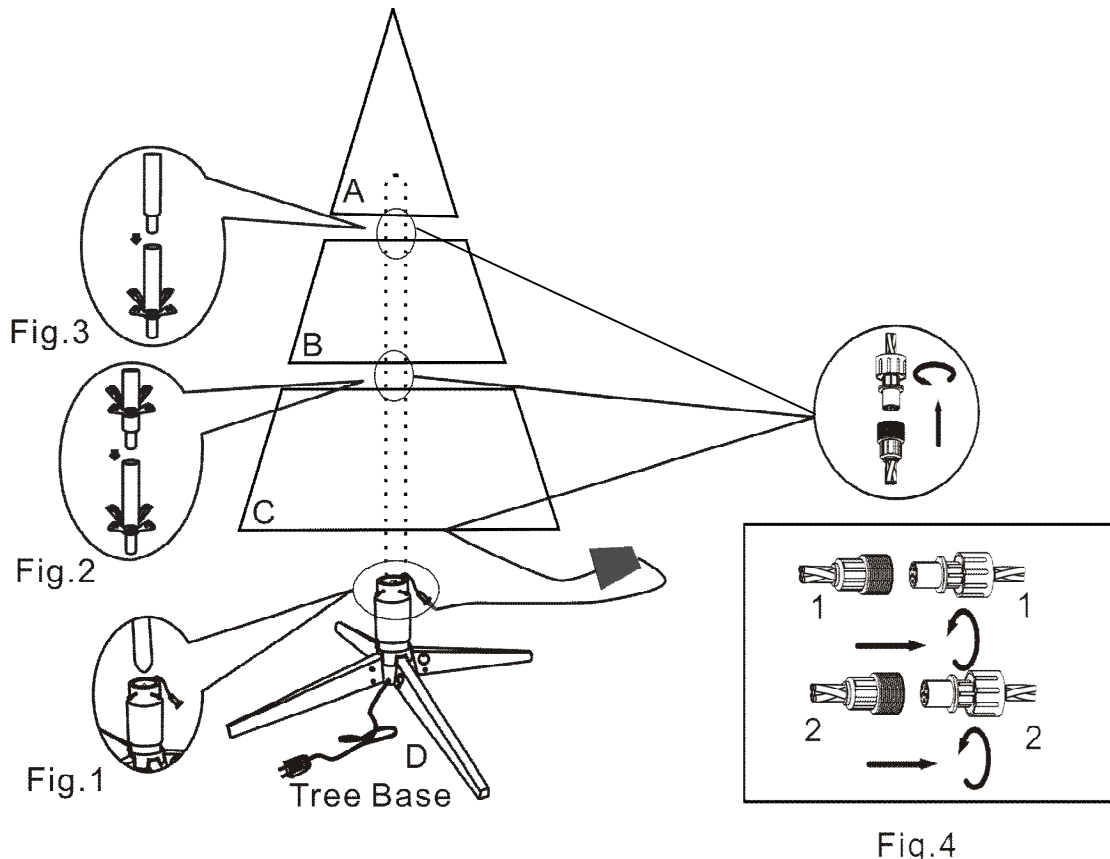

Fig.4
4. Join the male and female connector, which has the same matching color according to the magnified drawing. (see Fig. 4)